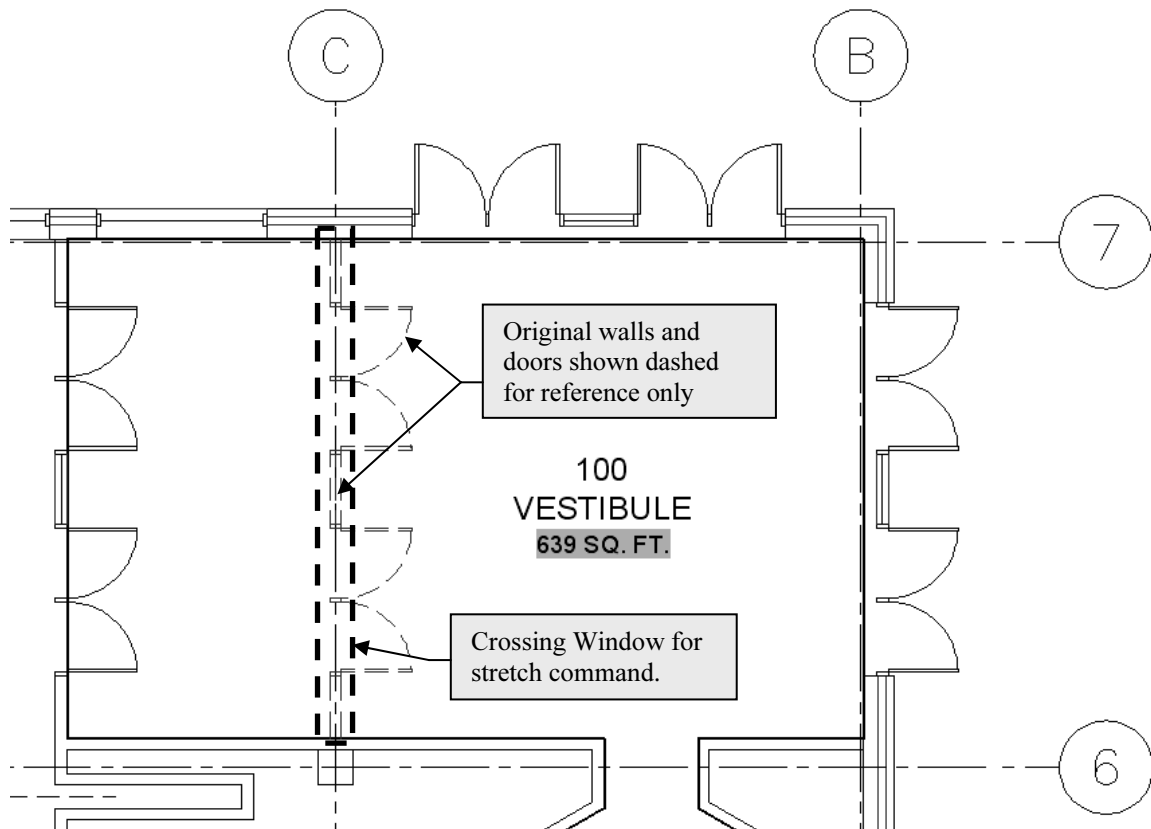

Figure 4-4.8 Stretching the vestibule wall
- c. Pick a **Crossing Window** (picking from right to left) as shown in Figure 4-4.8, being careful not to include the C/6 column's insertion point within the *Crossing Window*.